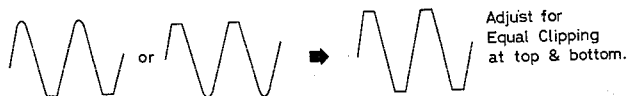

Figure 1
5. Connect AC power cord and rotate Volume Control clockwise — full volume. Increase generator output until sine wave on scope just starts clipping. Adjust DC Balance Control VR601 (on Main Amp. Circuit Board) for equal clipping on the positive and negative half cycles of the signal (see Figure 1).